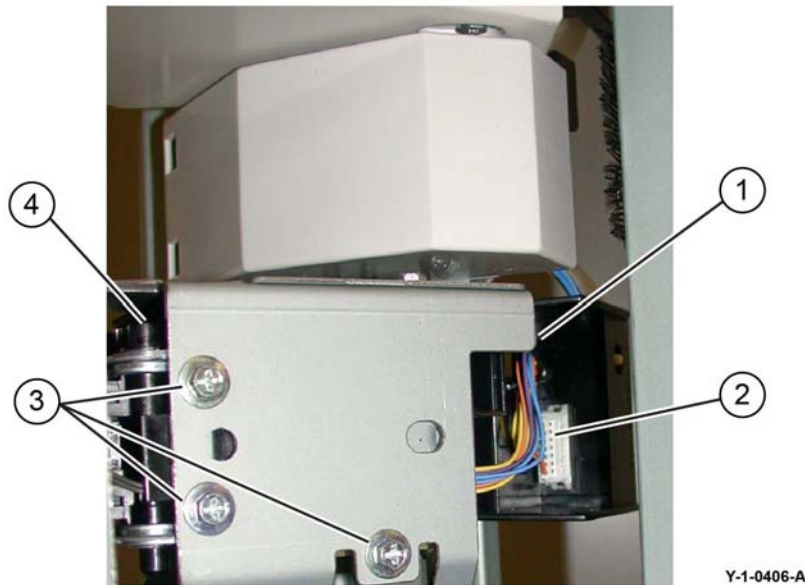

Figure 4 Stapler removal
5. Remove the stapler, **Figure 4**:
- a. Release the harness from the clamp (1).
- b. Disconnect the connector (2).
- c. Remove three screws (3).
- d. Remove the stapler (4).